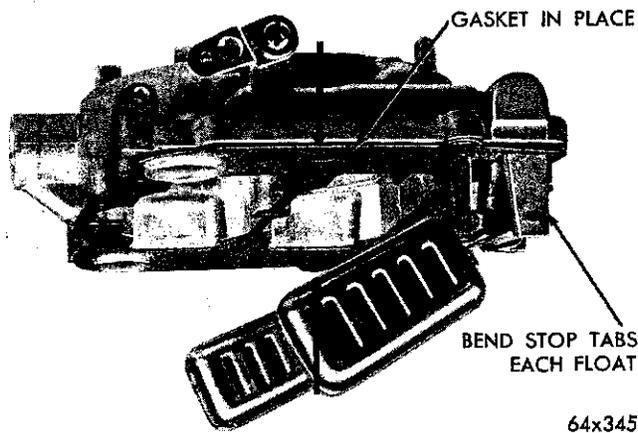

Fig. 11—Measuring the Float Drop
(1) Holding the air horn in an upright position, measure the distance from the top of the floats (outer end) to the air horn gasket, as shown in Figure 11. This measurement should be  $\frac{3}{4}$  inch. If an adjustment is necessary, bend the stop tabs on the float levers until the correct drop setting has been obtained. Bend the tab towards the needle seat to lessen the drop, or away from the seat to increase the drop.
(2) After the floats have been inspected and adjusted, continue to assemble the carburetor as follows:
(3) Place the accelerator pump plunger lower spring in the pump cylinder, then lower the air horn carefully down on the main body.
(4) Install the (10) air horn attaching screws and tighten securely. (The two long screws should be installed in the holes that are located at the air cleaner mounting surface. The 1 inch screw at the front and the  $1\frac{1}{2}$  inch at the rear.)